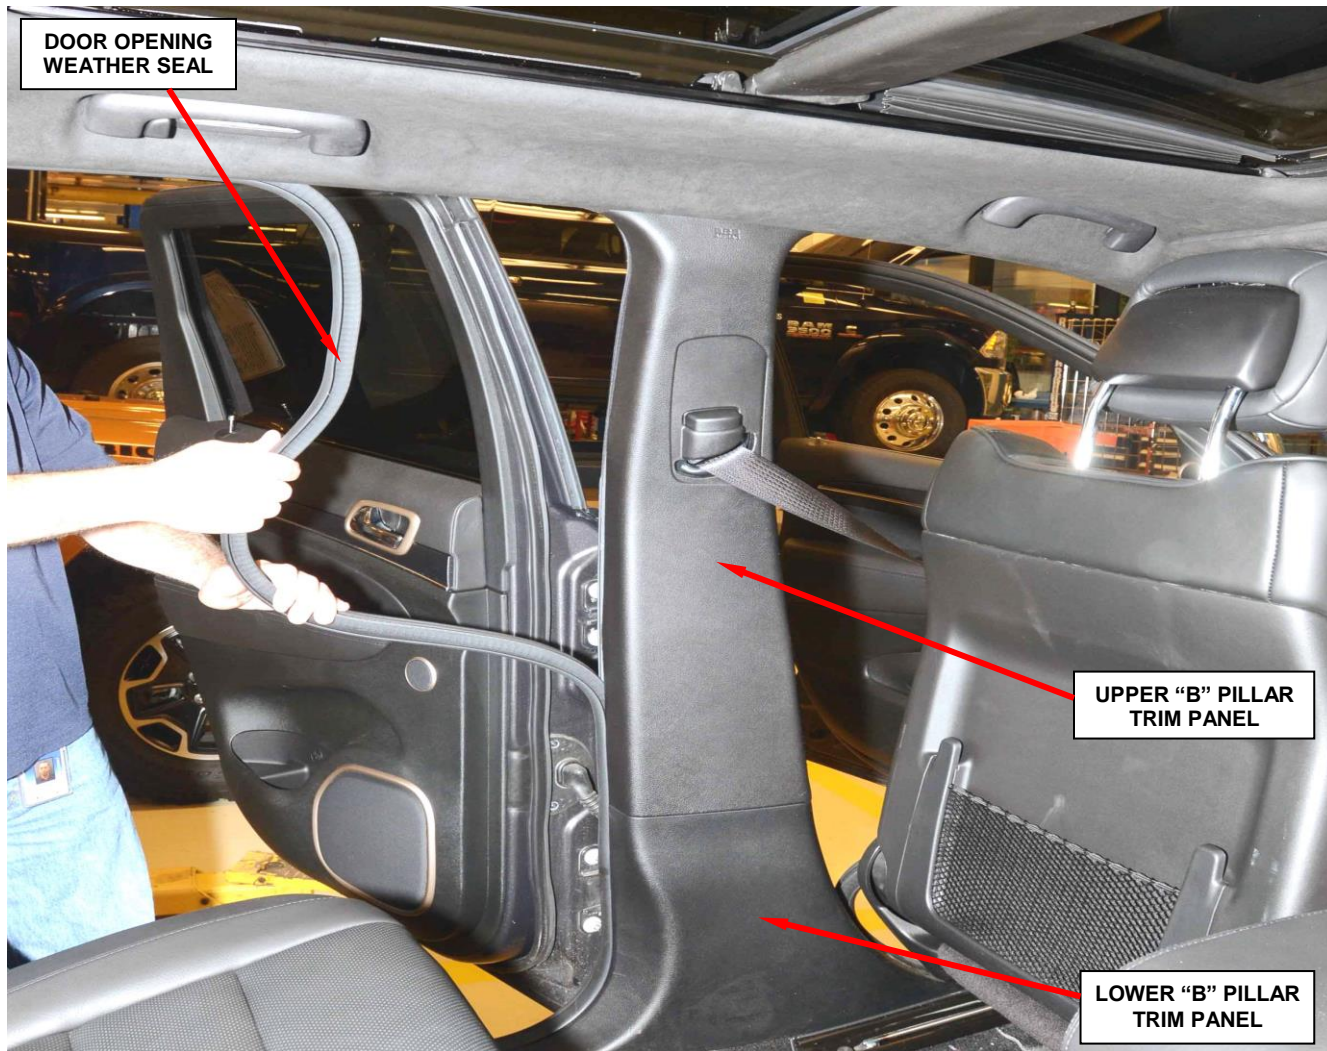

Figure 5 – Rear Door Weather Seal and “B” Pillar Panels
12. Remove and save the right and left side rear door weather seals (Figure 5).
13. Remove and save the right and left side upper and lower “B” pillar trim panels (Figure 5).
47. Install the right and left side upper and lower “B” pillar trim panels (Figure 5).
49. Install the right and left side rear door weather seals (Figure 5).